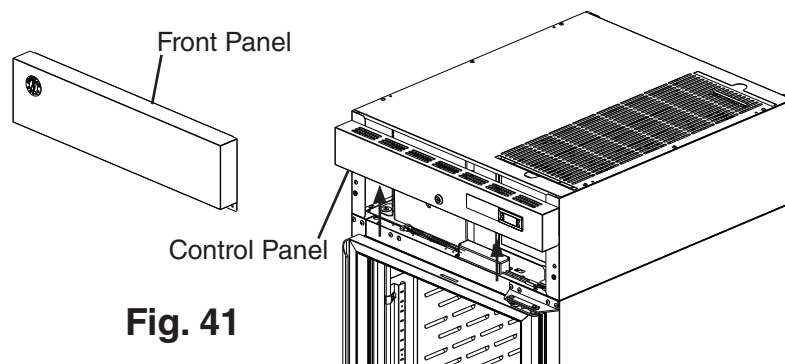

Fig. 41
- 2) Remove the front panel, then being careful not to pull the wires on the control module and door switch(es), remove the control panel. Secure the control panel so that it does not interfere with the hinge brackets and will not fall. See Fig. 41.